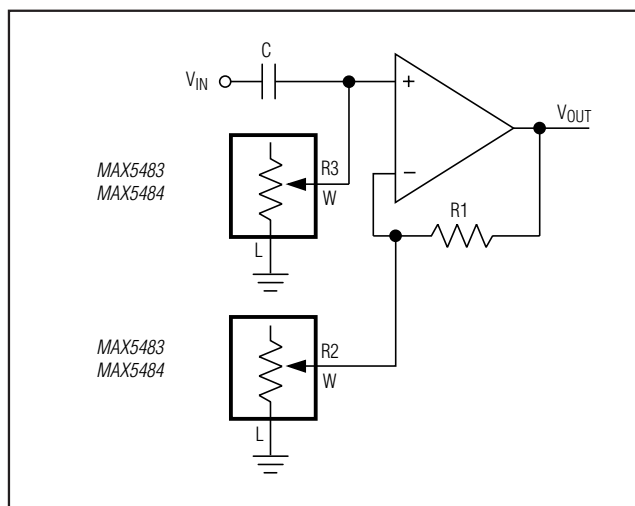

Figure 12. Programmable Filter
Figure 12 shows the configuration for a 1st-order programmable filter using two variable resistors. Adjust R2 for the gain and adjust R3 for the cutoff frequency. Use the following equations to estimate the gain (G) and the 3dB cutoff frequency ( $f_c$ ):